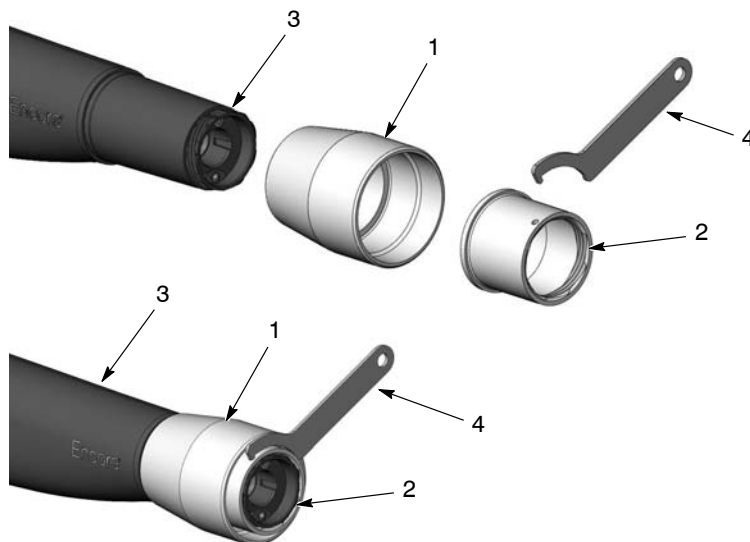

Figure 3 Installing the Body and Retainer Nuts onto the Spray Gun
4. See Figure 3. Slide the body nut (1) over the end of the spray gun (3). Thread the retainer nut onto the front of the spray gun, using the spanner wrench (4) included with the extension. With the retainer nut installed, the body nut should spin freely when rotated.
4. Unless the body nut or retainer nut need to be replaced, you can leave them attached to the spray gun. If they must be replaced, remove the retainer nut from the spray gun with the spanner wrench as shown in Figure 3.